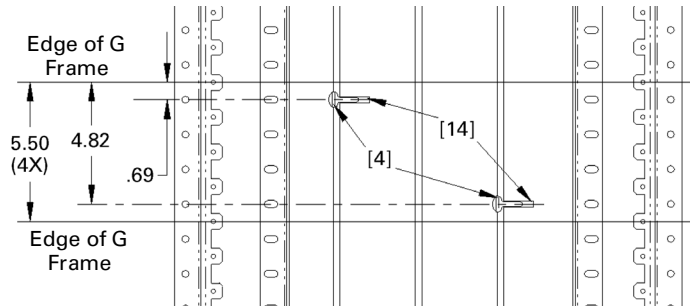

Figure 13. Installing carriage bolt assemblies on phases A and C.
**5c. Install carriage bolt assemblies on phases A and C.** Position the carriage bolt [14] and antiturn clip [4] assemblies as shown in Figures 13 and 14.